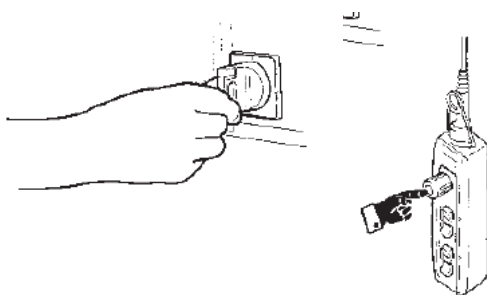

fig.131
- ▶ Disconnect the power supply to the trolley by pressing the emergency stop button -1-; set the main on/off switch lever to the "O" or "OFF" position, safely reach the work area, raising the control panel to prevent it from being operated from the ground. (fig.131)